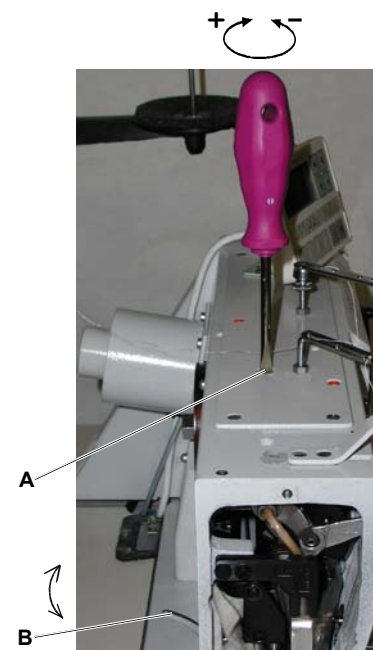

Fig. 10
6.8 Regulation of the presser foot pressure, presser foot lifting (Fig. 10)